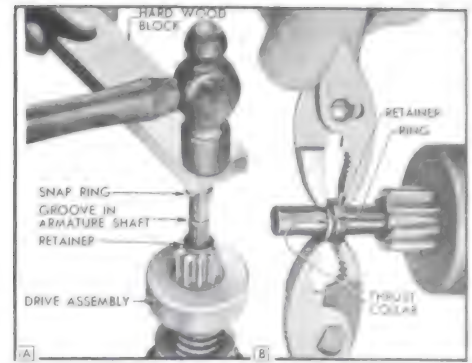

Figure 10-33—Pinion Stop Retainer and Snap Ring Installation
5. Place a new snap ring on drive end of shaft and hold it in place with a hard wood block. Strike block with hammer to force snap ring over end of shaft, then slide the ring down into groove in shaft. See Figure 10-33, View A.
6. Place thrust collar on shaft with shoulder next to snap ring, and move the retainer into contact with ring. Using pliers on opposite sides of shaft squeeze retainer and thrust collar together until snap ring is forced into the retainer. See Figure 10-33, View B.